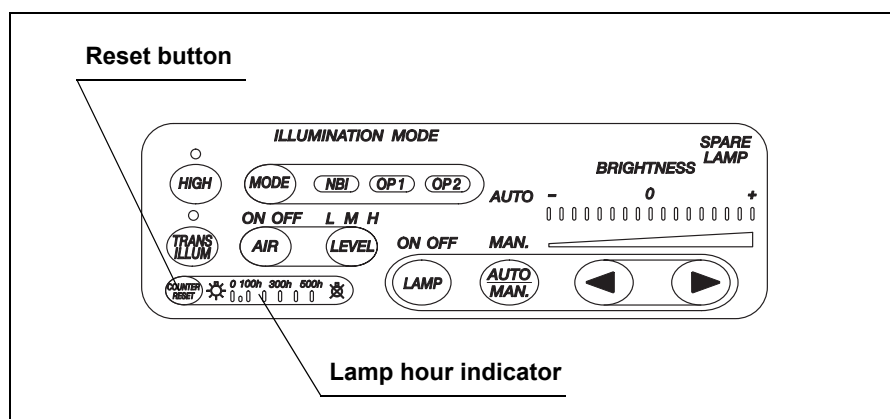

Figure 5.9
2. Press and hold the reset button for at least 3 seconds to reset the lamp hour indicator. Confirm that the lamp hour indicator shows "0". After that, turn the light source OFF immediately (see Figure 5.9).